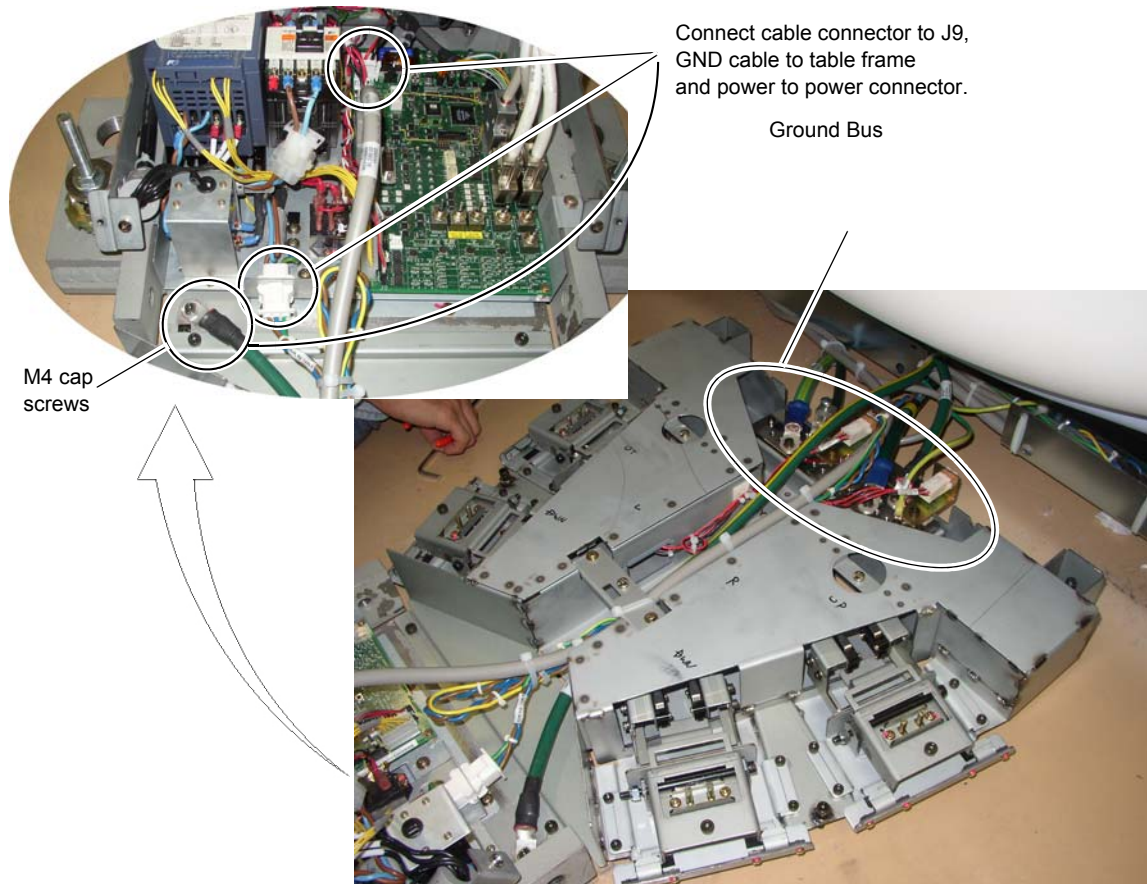

Figure 1-66 Footswitch Assembly Cable Wiring
- 7.) Cut the tie-wraps from around the cables in the gantry base and route the power cables from the gantry as shown in Figure 1-66.